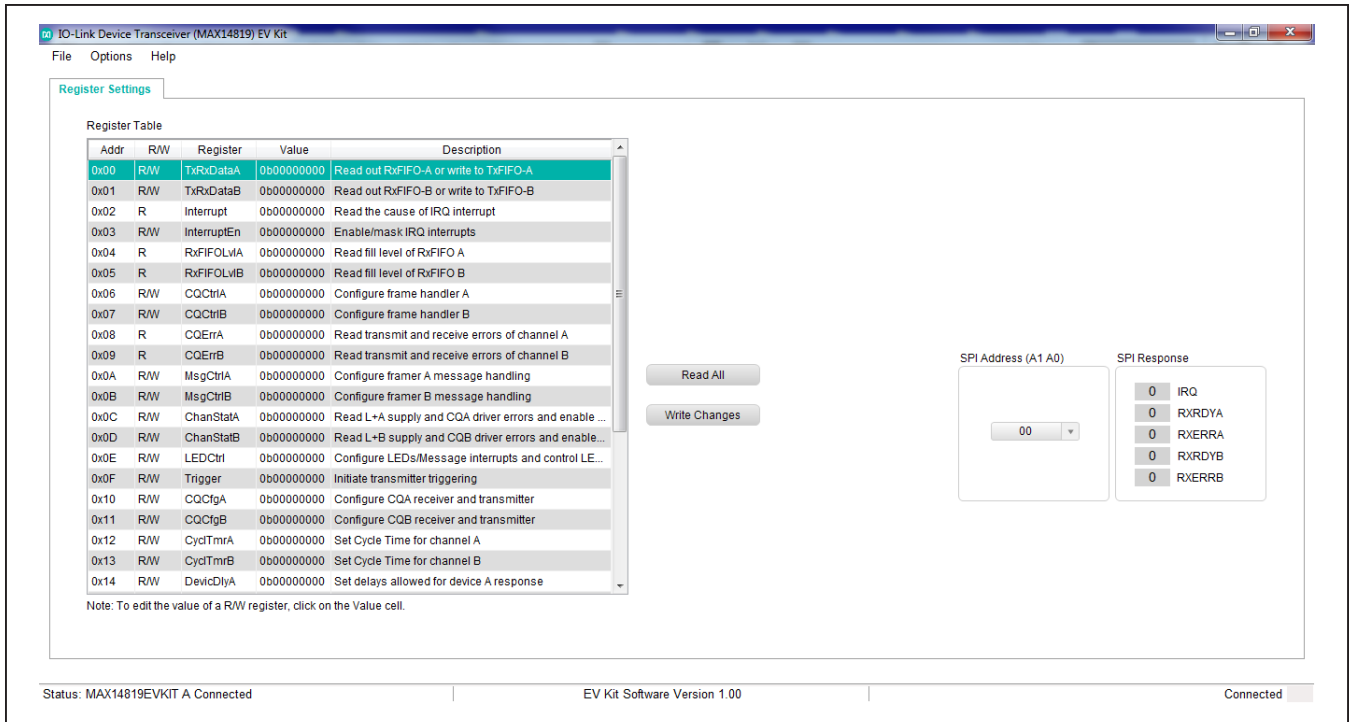

Figure 1. MAX14819 EV Kit Software, EV Kit is Connected
- 7) Start the EV kit software by opening its icon in the Windows **Start | Programs | Maxim Integrated** menu. The EV kit software main window appears, as shown in Figure 1.
- 8) Verify that **Status: MAX14819EVKIT A Connected** is displayed on the status bar at the bottom of the main window (Figure 1).